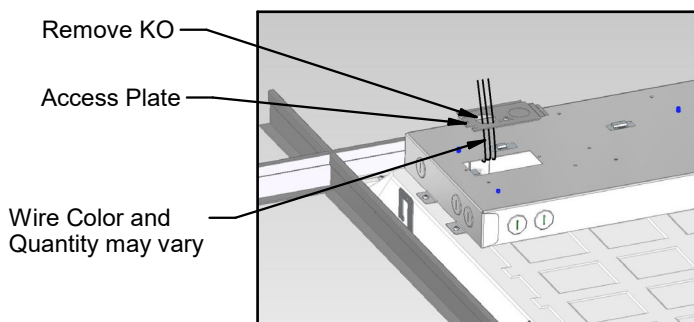
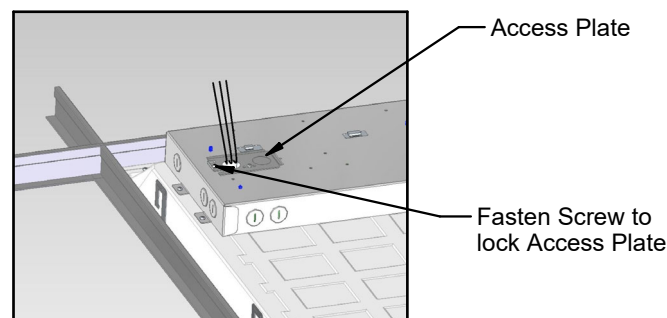

Fig 3.1
Fig 3.2
- 3 Open access plate by unfastening the screw (Fig 3.1). Open knockouts to connect power with appropriately sized electrical fittings. Make wiring connections according to Fig 3.3. Replace access plate into place, and securely fasten screw to lock access plate closed. (Fig 3.2)